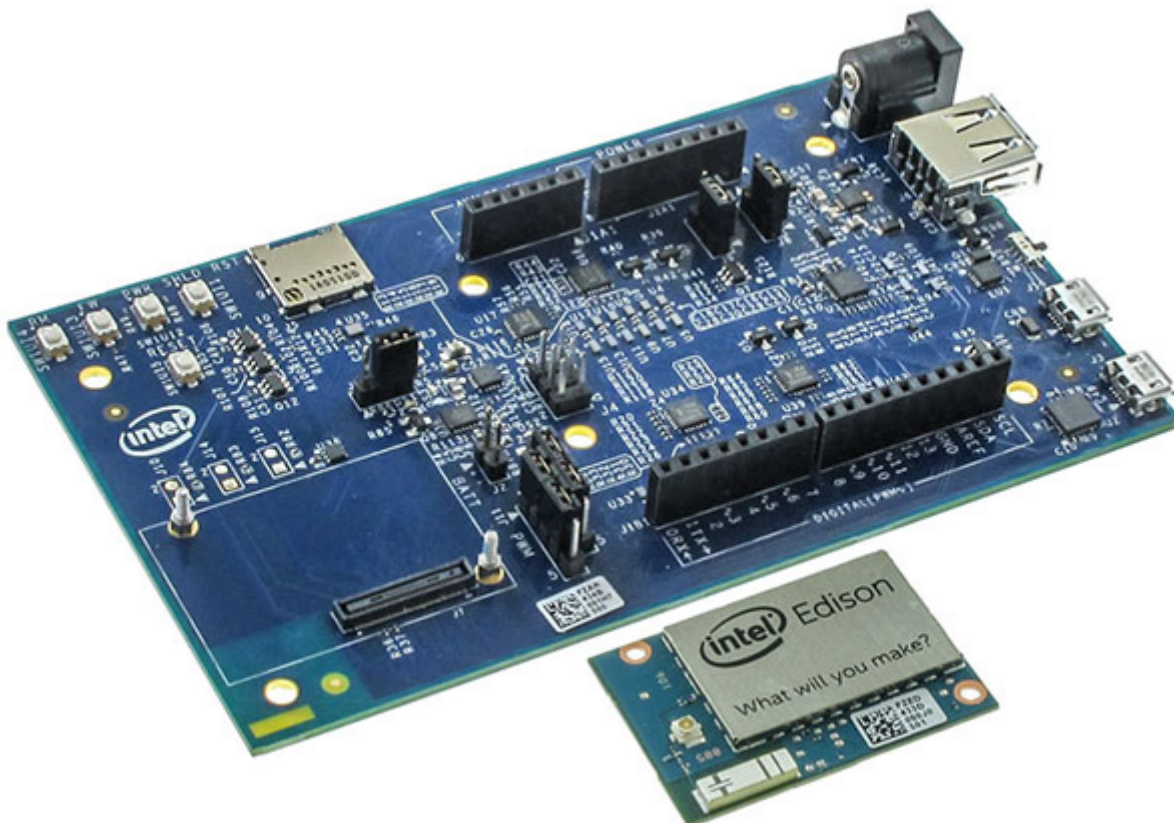
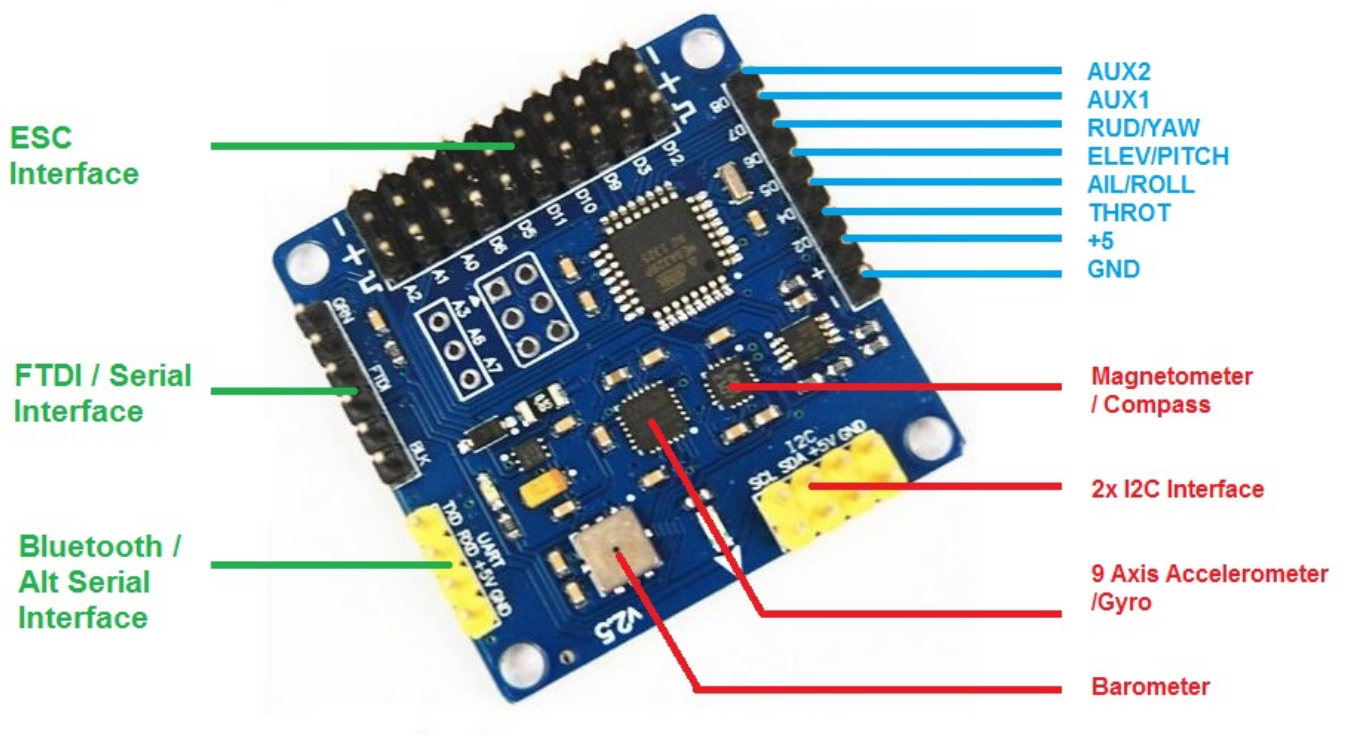
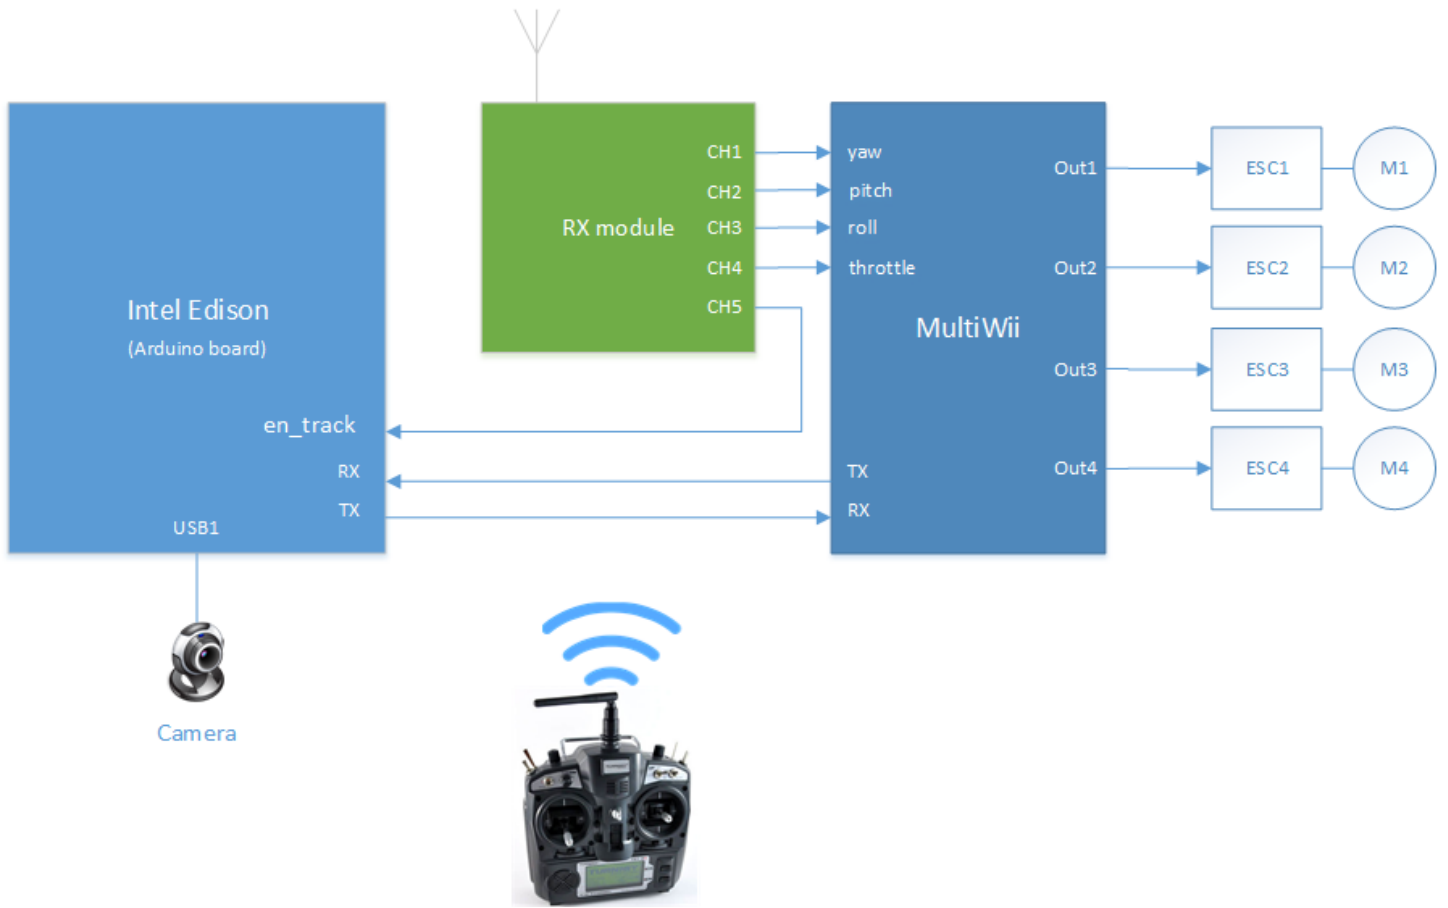

Figure 1 - Intel Edison and the official Arduino Compatible Board
Figure 2 - MultiWii SE v2.5 Controller
Figure 3 - Blocks diagram
The goal of this project is to implement a simple object tracking oriented by a predefined color using the images captured by a USB camera onboard a quadcopter. The main idea is to use a *Intel Edison* (**Figure 1**) board to do the image processing and to command the movement of the quadcopter when necessary (general commands will be received by a commercial radio control). The quadcopter will use the *MultiWii* controller as stabilization system (**Figure 2**). In the **Figure 3** you can see a high level block diagram of the project.
1. http://www.mouser.com/images/microsites/Intel_EDI1ARDUINALK.jpg (Figure 1)
2. <http://artofcircuits.com/wp-content/uploads/2014/11/MultiWii-SE-2V5-5.jpg> (Figure 2)
3. <http://www.mdpi.com/1424-8220/15/12/29785/htm> (Figure 3)